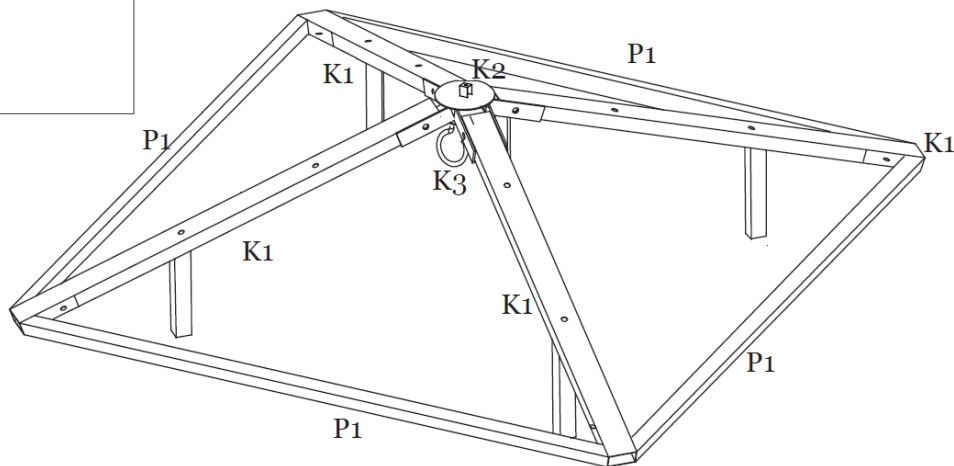

Figure 7-3
Step 7C: Repeat for all corners. See Figure 7-3.
Step 7E: Repeat for all sides. **Tighten all Bolts.** See Figure 7-3.